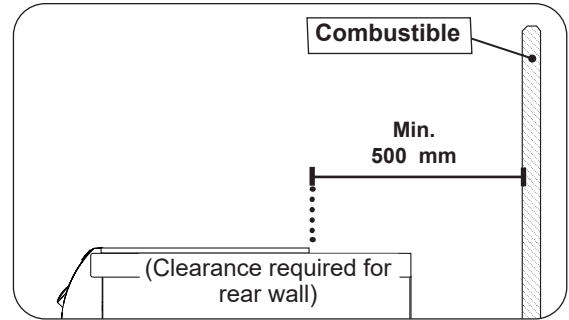

Fig. 12-2 Clearance 'B' Diagram
- The unit must have a minimum clearance of 500 mm from the combustible rear wall (see Fig. 12-2).